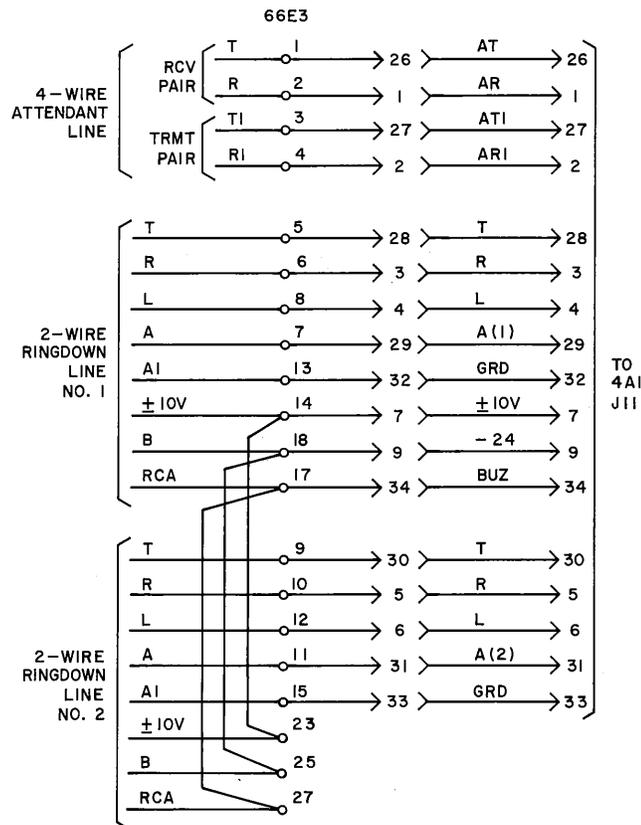

Fig. 5—Telephone Line Connections to the 4A1 Data Mounting Connector J11
3.05 Refer to Fig. 5 for information on telephone line connections to the 4A1 Data Mounting via connector J11.